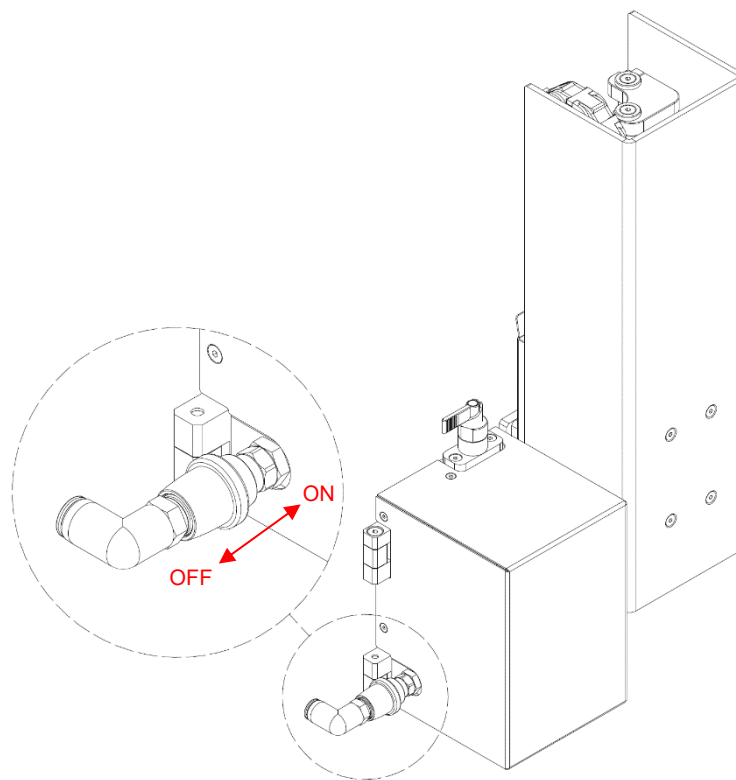

Figure 5
References to specific items in a figure are marked with letters. They are identified with parentheses in the text, e.g. (A). If no figure number is provided, letters in the text always refer to the graphic directly above the text. If a reference is made to another graphic, the figure number is specified, e.g. (A, in figure 5).
The applicator can be stopped at any time by interrupting the compressed air supply. For this purpose, a manual slide valve is attached directly to the applicator (see Figure 5). When the manual slide valve is in Off mode, the compressed air supply is interrupted, which immediately stops the applicator and automatically releases the compressed air. This applies also for the power-off mode: As soon as the power supply is interrupted, the compressed air in the system is automatically released and the applicator immediately comes to a standstill.